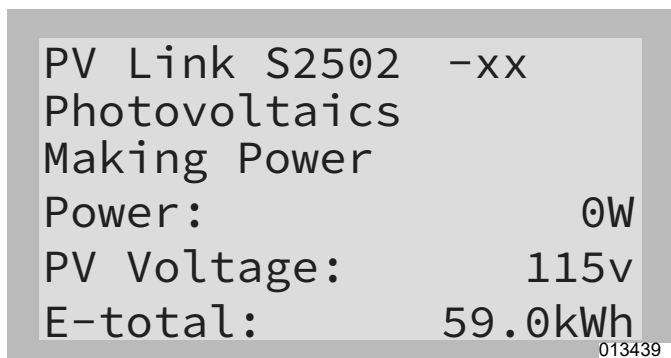

Figure 7-13. PV Link Device Page
11. See Figure 7-13. Confirm PV Links are in state, “making power.”